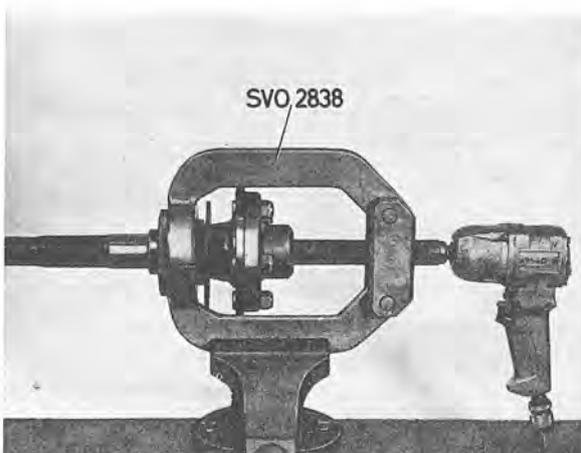

Fig. 4-134. Removing the drive shaft bearing
4. Secure press tool SVO 2838 in a vice. Secure the drive shaft to the spindle plate. Screw in the spindle so that the tool arms can be placed against the bearing, see Fig. 4-134. Screw out the spindle and press off the bearing and lock ring. Remove the oil seal.